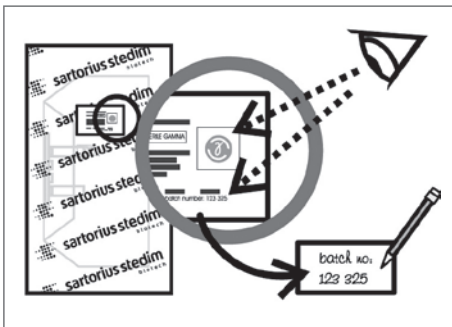

Figure 44
2. Check that the irradiation indicator on the label is red. Record the batch number of the bag (as seen on the product label). (see Fig. 44).